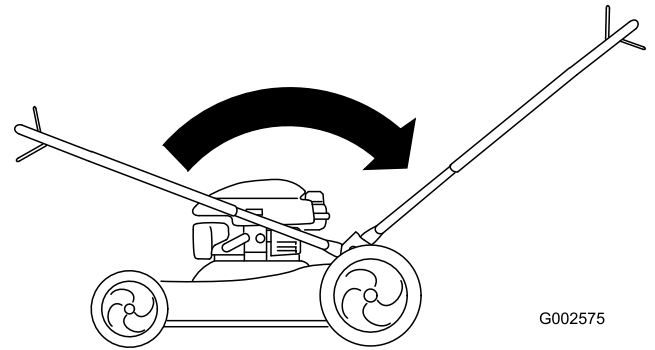

Figure 5
3. Rotate the handle rearward (Figure 5) until it clicks into place.